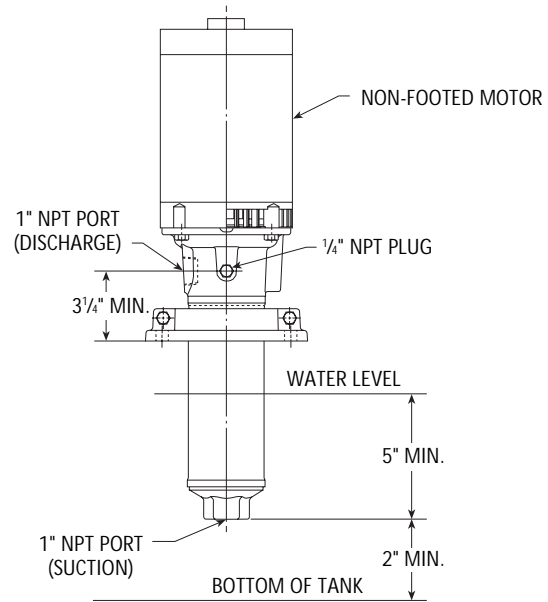

Figure 1
- Minimum and maximum liquid levels must be maintained for proper pump operation. See Figure 1.